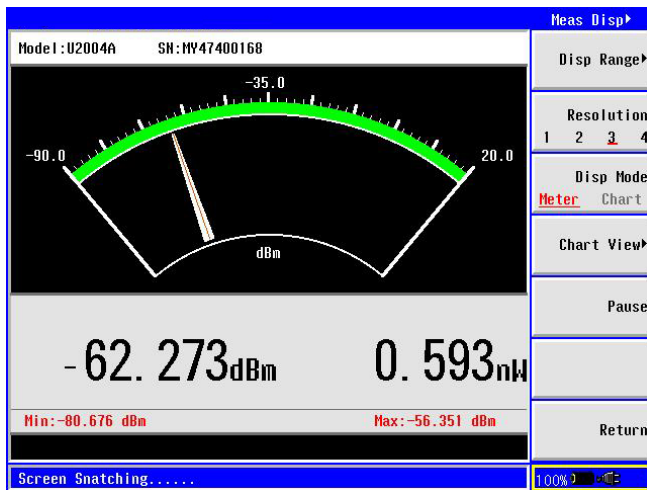

Figure 16. Meas Disp menu allows you to configure the display measurement and resolution
4. Press {Return} > {Meas Disp ►} (see Figure 16).